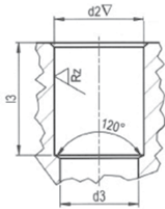

Fig. 1
- / The drilled hole (Fig. 1) must be within the tolerances shown on the preceding dimensional sheets.